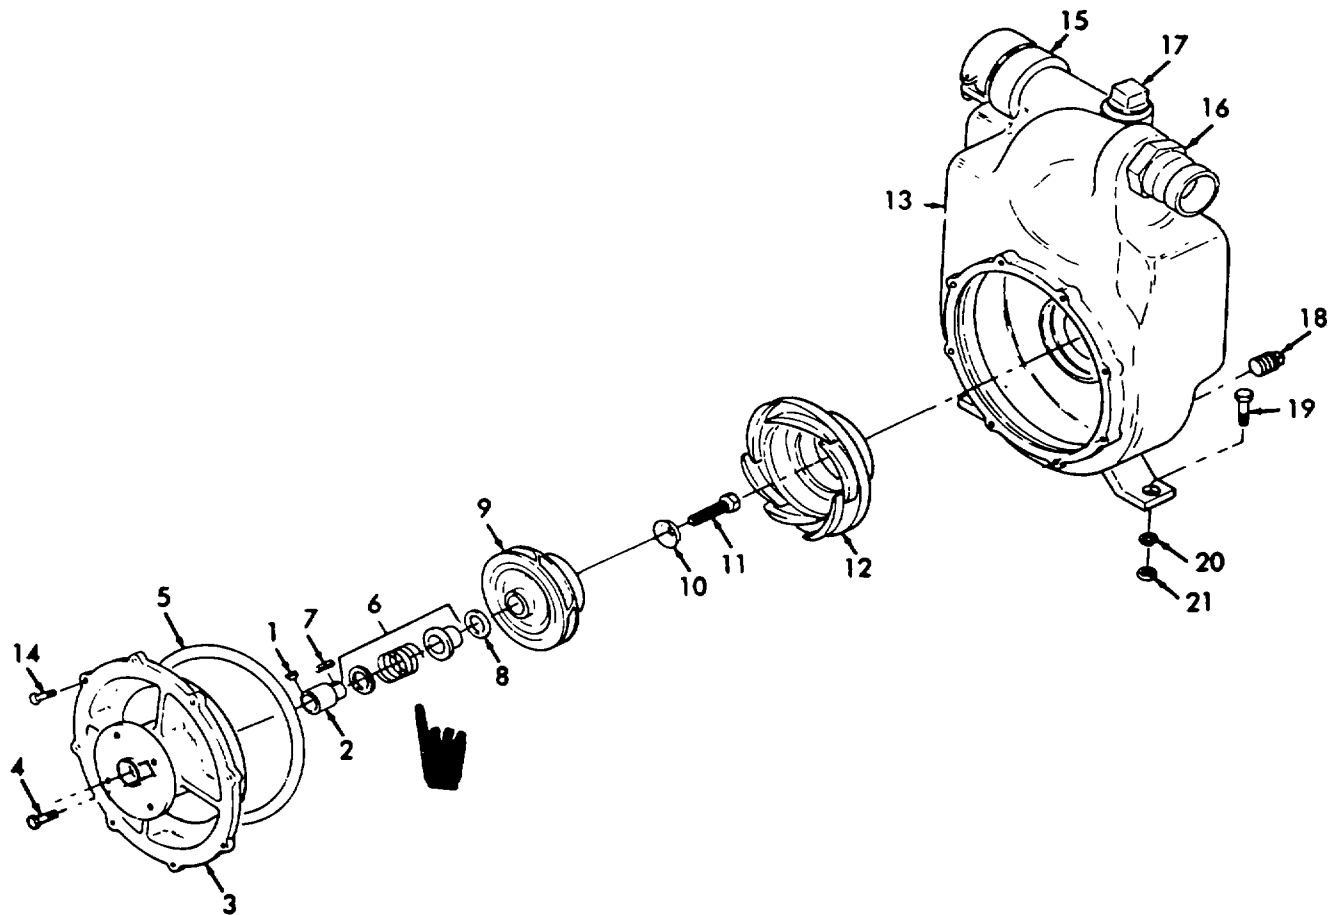

Figure 5-2. Pump Assembly Reassembly.
e. Reassembly. (Refer to figure 5-2).
- (1) Install key (1) and shaft (2).
- (2) Install backhead (3) and secure with four screws (4). Install new packing (5).